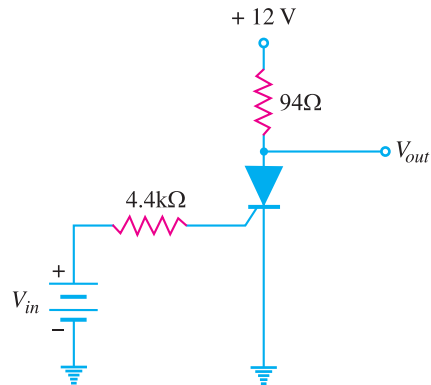

Fig. 20.31
6. In Fig. 20.31, if the trigger current of the SCR is 1.5 mA, what is the input voltage that triggers the SCR? Given $V_T = 0.7\text{V}$. [7.3V]